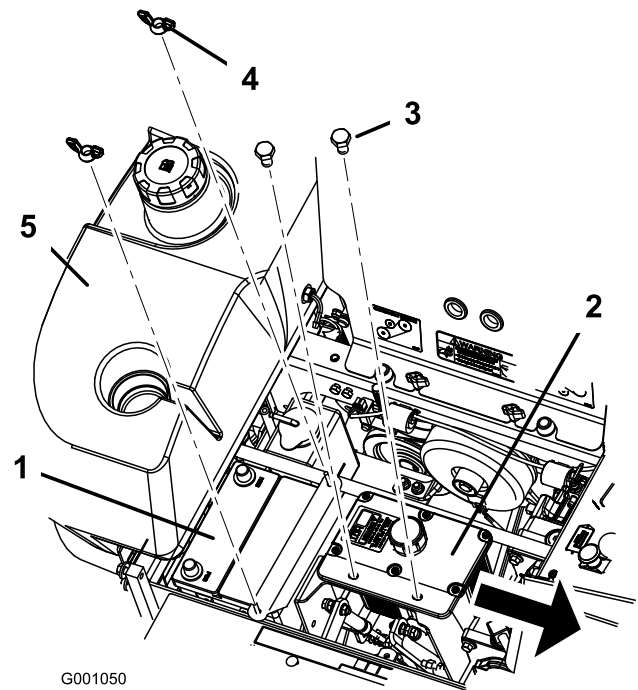

Figure 43
6. Secure battery with J-bolts, hold down clamp and 2 washers (1/4 inch), and 2 wing nuts (1/4 inch) (Figure 43).
6. Remove both wing nuts (1/4 inch) securing the battery clamp (Figure 43).
7. Remove the two bolts holding the hydraulic tank in place (Figure 43).